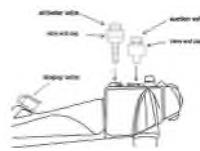

Figure 1
4. Insert the suction valve into suction cylinder of a Fujifilm® endoscope (see Figure 1 below).
9. Insert the air/water valve into the air/water cylinder of a Fujifilm® endoscope (see Figure 1 below).
13. Securely place the biopsy valve onto the biopsy/suction channel opening of a Fujifilm® endoscope (See Figure 1).